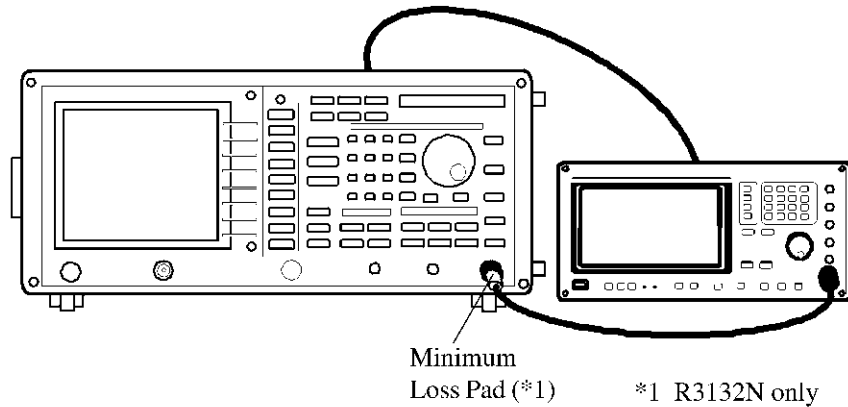

Figure 5-11 Setup of Residual FM Test
1. Connect the signal generator as shown in Figure 5-11.